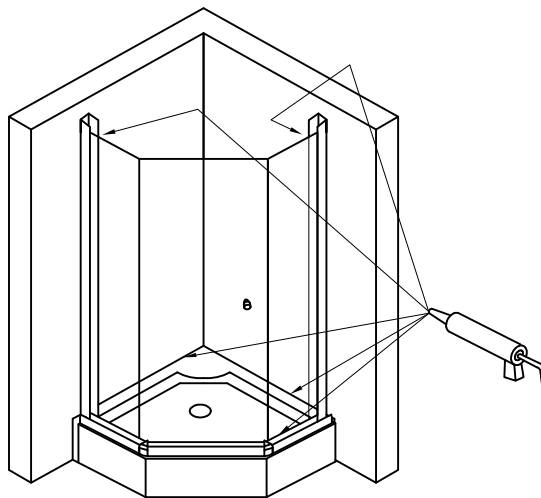

FIG.10
3. Apply clear silicone caulk around the inside perimeter of the bottom rail. [SEE FIG.10]